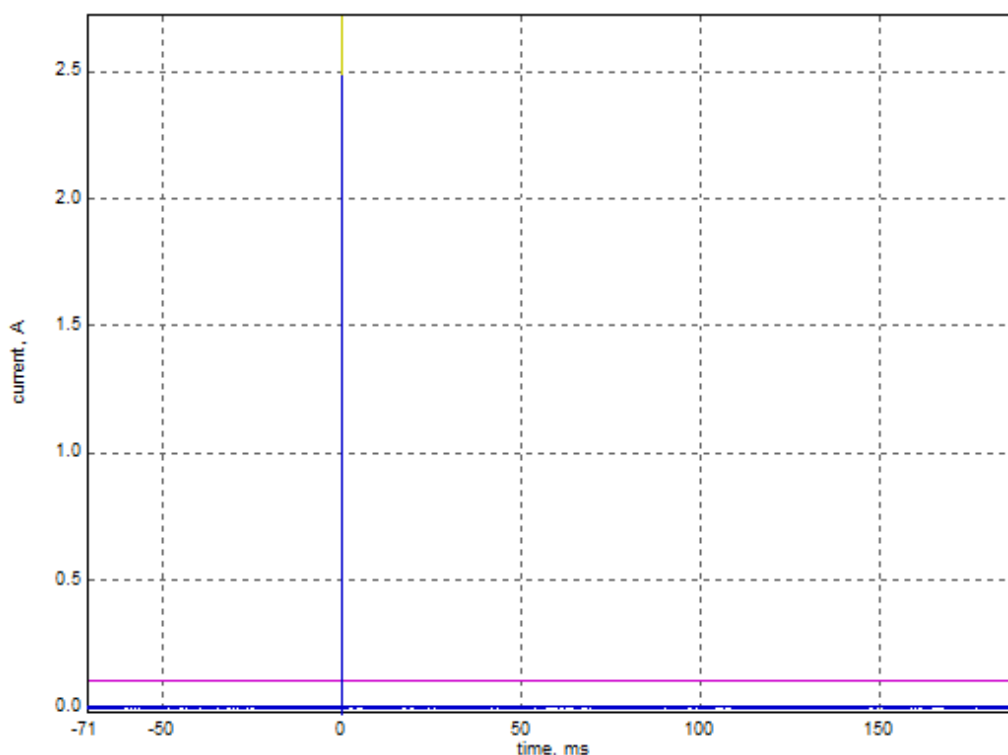

Figure 14. Device Inrush Current Test result
- Use the analysis software USBET20 on your computer to analyze the waveform file, then a page will show the test result as shown in Figure 14. Inrush failures mostly occur when **VBUS** and **GND** have too large a capacity between them.